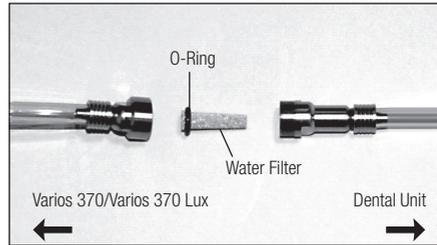

Fig. 23
- 3) When the Water Filter case is separated, the Water Filter can be removed as shown in Fig. 23.